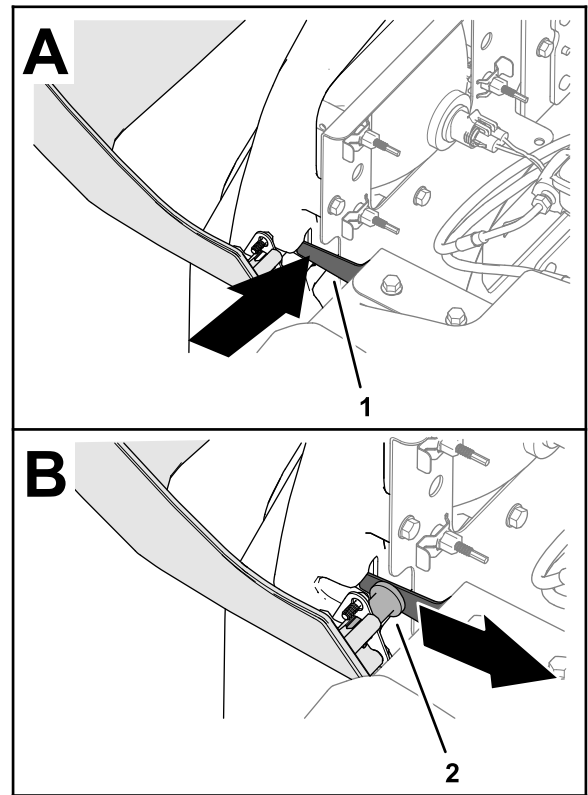

Figure 41
3. While supporting the hood, push the pivot latch inward and move the hood rearward until the clevis pin of the hood clears the latch (Figure 41).